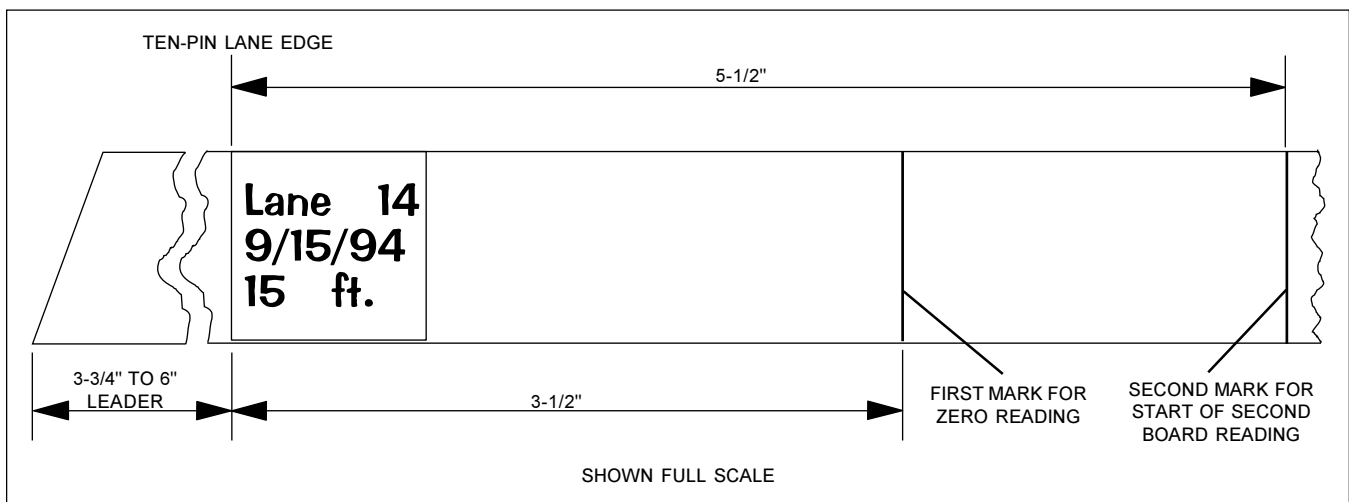

Figure 21 - Preparing a Tape for Manual Read
2. Mark two lines on the sample tape as shown in Figure 21. The first line should be 3-1/2" after the 10-pin lane edge with the second line 5-1/2" after the 10-pin lane edge. Figure 21 is shown full scale and can be used as a guide for marking the tape.